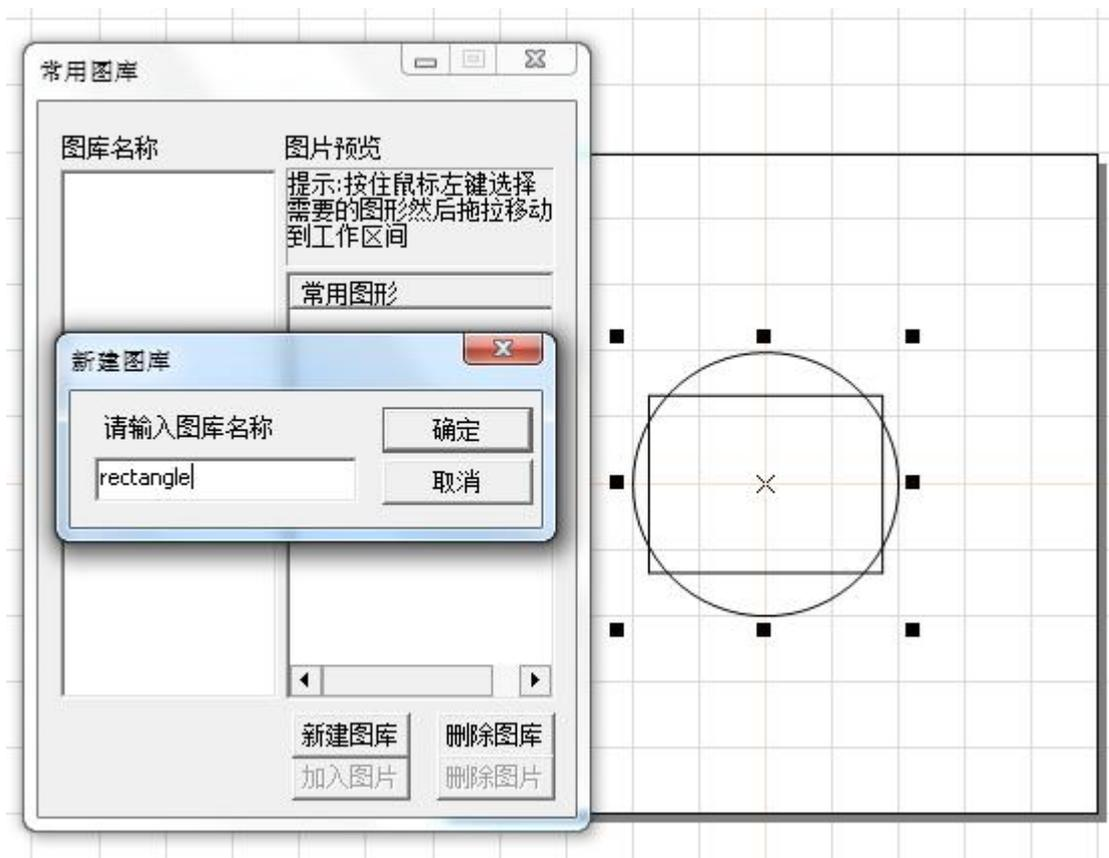

Fig.2-12 Images Library
- Infrequent use parameter editing enable: When this item is not checked, the infrequently used parameter items in the main interface-Marking parameter -advanced options are grayed out and cannot be edited, as shown in Figure 2-12. Check this item r to enable editing.